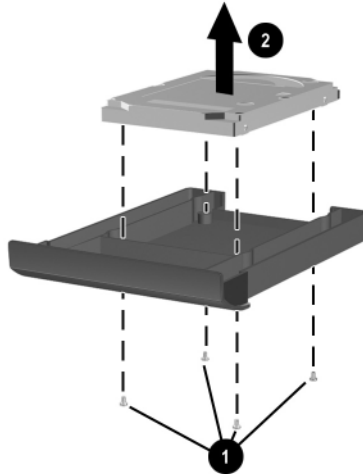

Figure 5-5. Removing the Hard Drive from the Hard Drive Carrier
- d. Remove the four PM3.0 × 4.0 screws ❶ that secure the hard drive to the hard drive bracket (Figure 5-5).
- e. Remove the hard drive ❷ from the hard drive carrier.